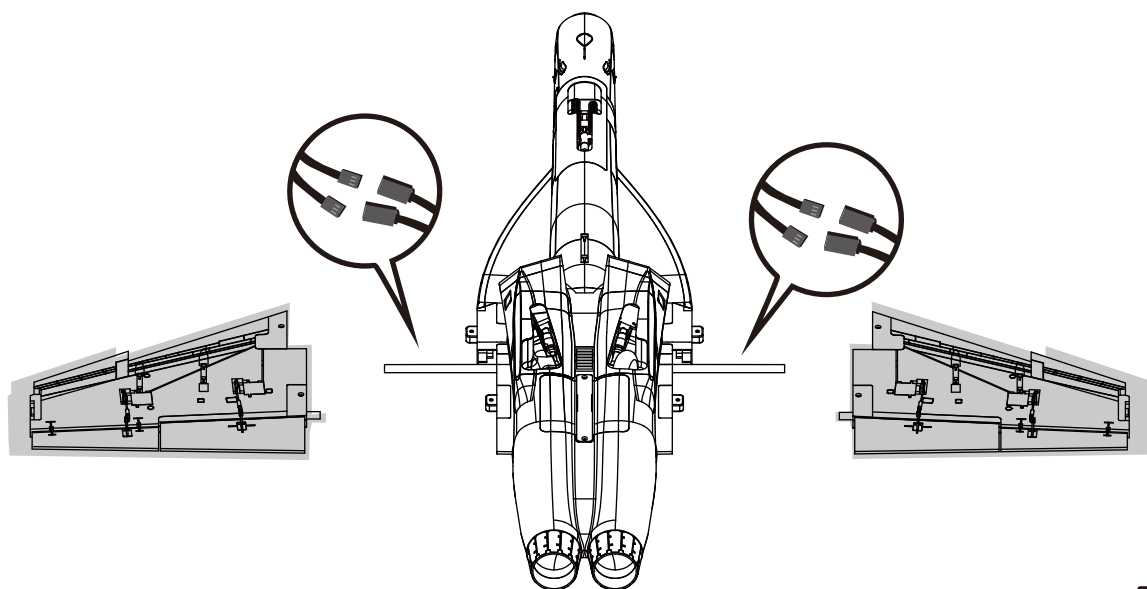

fig1
1. Slide the tube into the fuselage then install both wings over the wing tube and into the wing slot of the fuselage. (fig1)